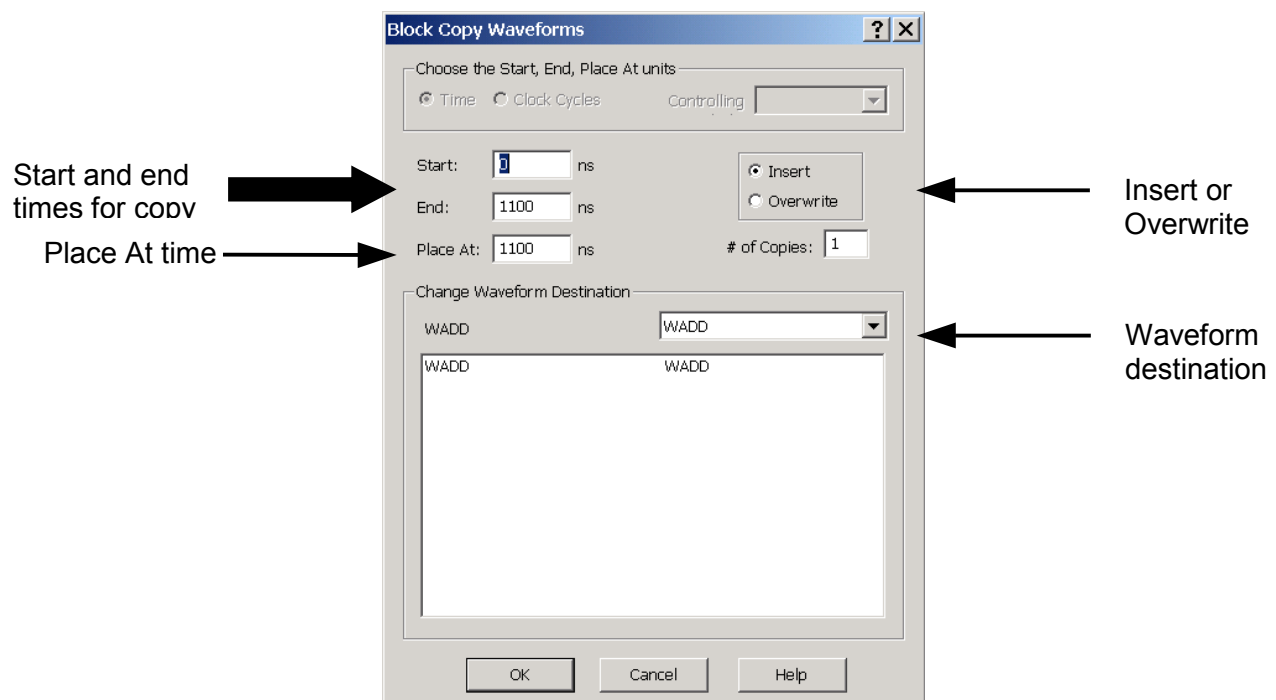

Figure A4 - Block Copy Waveforms dialog box
2. Choose the Edit > Block Copy Waveforms menu option. This opens the Block Copy Waveforms dialog box (Figure A4), with the selected signals displayed in the Change Waveform Destination list box.